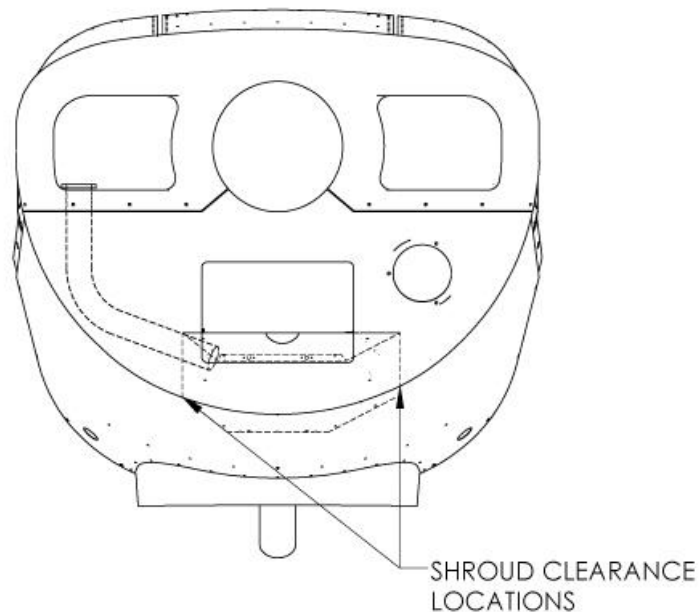

Figure 1, Shroud Clearance
4. Inspect nosebowl for abrasion at locations shown in figure 1 (nominal clearance is $\frac{3}{8}$ inch). Cowl fit may reduce clearance to a point that engine movement results in abrasion.